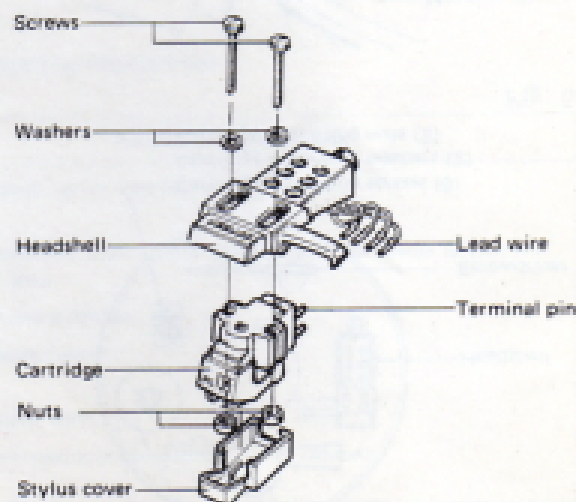

Fig. 3
3. Attach the cartridge lightly to the headshell using the screws, nuts and washers (Fig. 3).